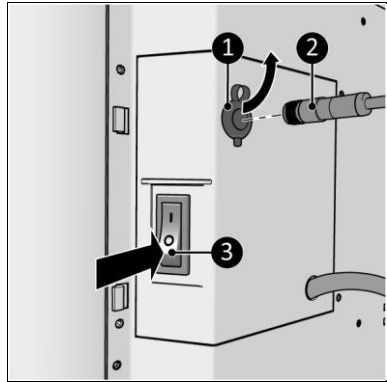

Figure 14
1. Make sure the ON/OFF switch is in the OFF position (Figure 14, pos. 3)
2. Connect the temperature sensor connector (Figure 14, pos. 2) to the sensor plug (Figure 14, pos. 1).